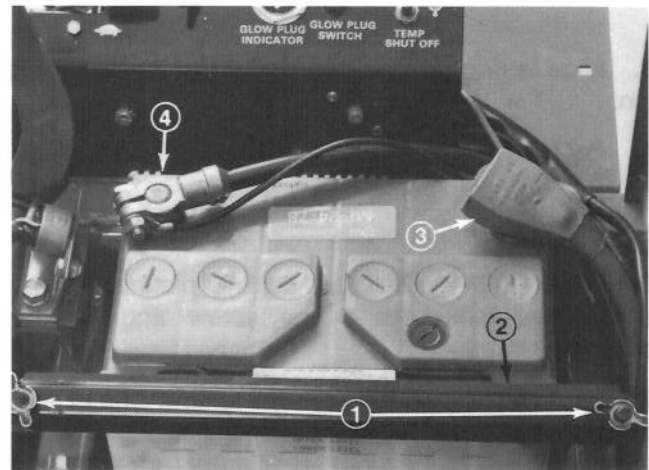

Figure 3
2. Remove two wing nuts and hold down strap that secures battery (Fig.3). Lift battery out of chassis. Keep wing nuts and hold down strap in safe place for later use.